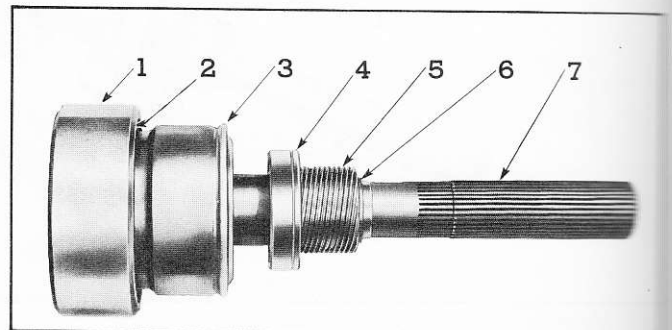

Fig. 5B—Overdrive Output Shaft Assembly
7. Remove ring gear snap ring (large) and slide ring gear off shaft (fig. 5B). The oil collector ring is spun securely to the shaft to form an oil tight seal.